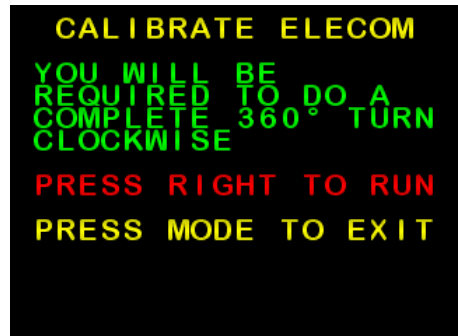

Figure 26: Confirmation screen
- From the Install Options 1 menu, use ► to scroll down to ELECOM MENU and press AUTO button. Press ► to confirm or MODE to exit (Figure 26)